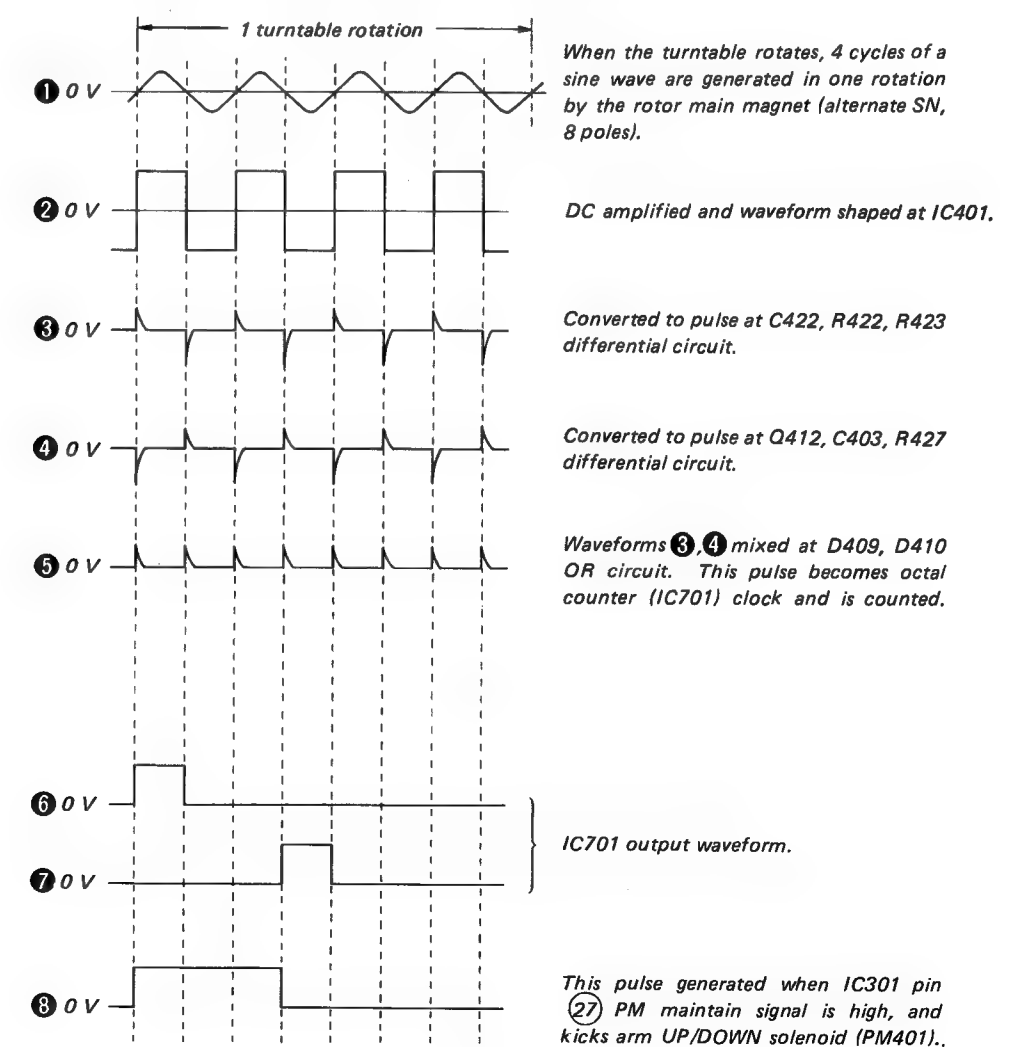

Figure 4
Refer to waveforms ① - ⑧ below and Figure 4 for circuit operation.